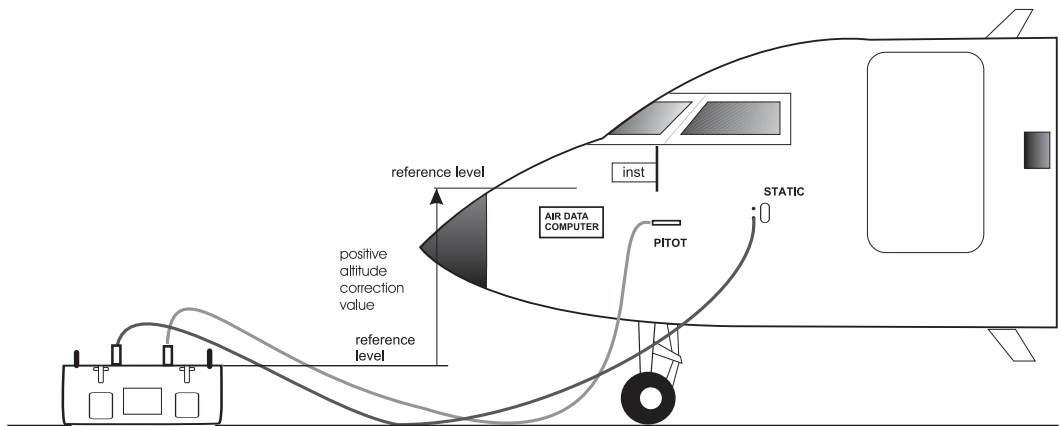

FIGURE 6-2 ALTITUDE CORRECTION ON-AIRCRAFT
**[Alt. Corr.]****Altitude Correction (Figures 6-2 and 6-3)**